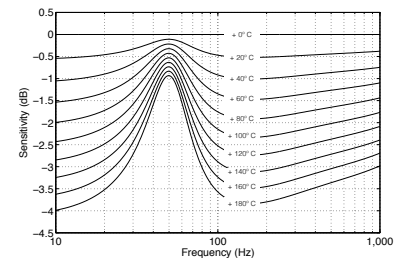
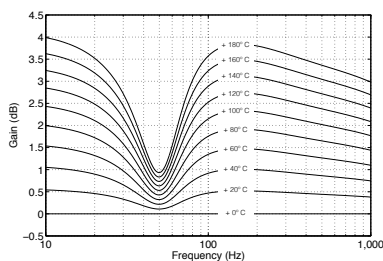

Figure 20.4: Sensitivity of a woofer vs. the change in temperature of its voice coil.
Figure 20.5: Magnitude responses of the compensating filter for a woofer vs. the temperature of its voice coil.
The total result is shown for various temperature differences in Figure 20.4. Notice that these plots show the change in magnitude response of the driver with changes in temperature. So, the curve at the top is the change in the woofer's magnitude response (which is 0 dB at all frequencies – in other words no change) when the loudspeaker is playing at the same temperature at which it was measured (let's say, 20°C or room temperature). As the temperature of the voice coil increases above that temperature, you can see that you lose output in two frequency bands on either side of a “bump” in the response – that bump is at the resonant frequency of the loudspeaker driver.
Interestingly, everything I said above is true for every moving coil loudspeaker. So, if you're the kind of person who believes that the only "proper" loudspeaker is one where you have nothing but a loudspeaker driver (in a cabinet of any kind, or not) and an amplifier - and no active filtering, then you'll have to live with the kind of unpredictable behaviour that you see above. However, since a Beolab 90 "knows" the temperature of the voice coil of its loudspeaker drivers, and since it has been programmed with the curves like the one shown in Figure 20.4, we can actively linearise its response, making it much more predictable.
In essence all we need to do is to take Figure 20.4, flip it upside down and make a filter that "undoes" the effect of temperature on the loudspeaker's response. For example, if the woofer's voice coil gets 160°C above room temperature (where we originally measured it), it drops 3.2 dB at 20 Hz, the processor knows this and adds 3.2 dB at 20 Hz. In order to do this, the processing of the Beolab 90 includes a set of filters (one for each driver) whose response varies in time with the temperatures of the the drivers. The temperature-dependent filters for the front woofer are shown in Figure 20.5.
- This particular filter shown in Figure 20.5 should only be applied to the appropriate loudspeaker driver. The other woofers and the other drivers have different behaviours and should be processed with their own correction curves. In other words, this filtering can only be done because the Beolab 90 is an active loudspeaker with independent filtering for each of the 18 loudspeaker drivers.